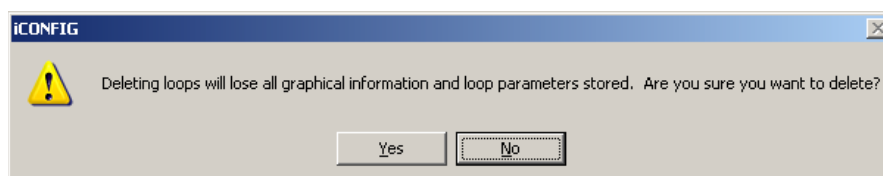
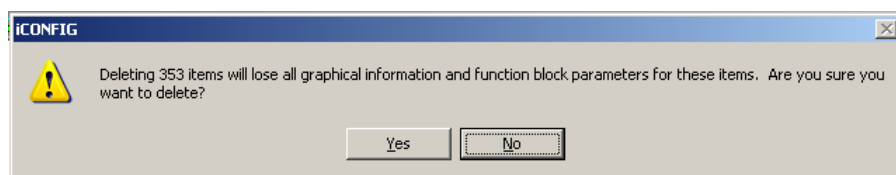

Figure 8-2 Loop deletion confirmation message
Figure 8-3 Function block or ladder logic element deletion confirmation
2. Select **Edit > Delete** or press **<Delete>**. If deleting a loop, the message in Figure 8-2 will appear. If deleting a function block or ladder logic element, the message in Figure 8-3 will appear.